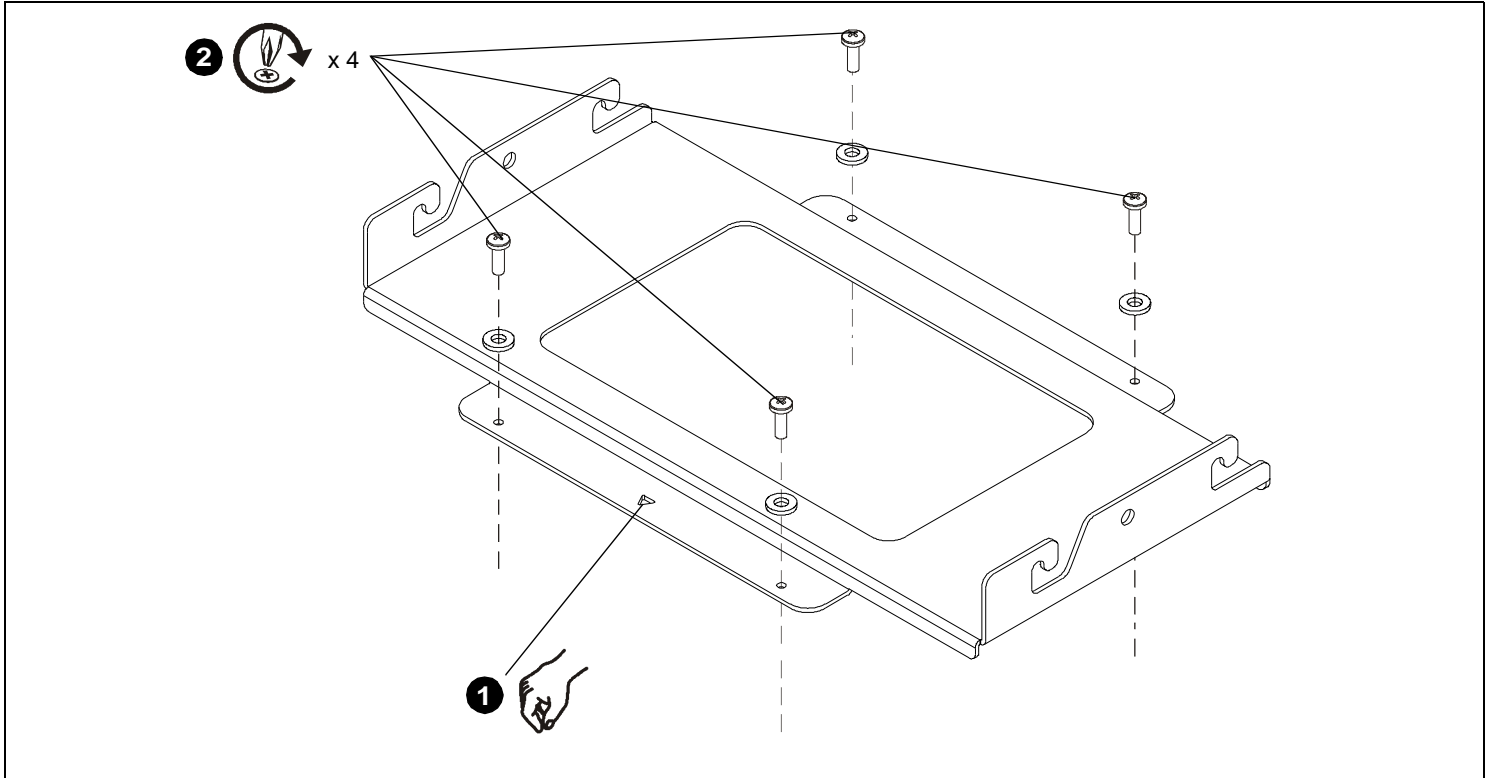

Figure 1
1. Lower custom HB bracket onto top of projector. Ensure that triangle in bracket points toward front of projector. (See Figure 1)
2. Attach HB bracket to projector using four M4 x 12mm Phillips pan head screws through four holes in the HB bracket. (See Figure 1)